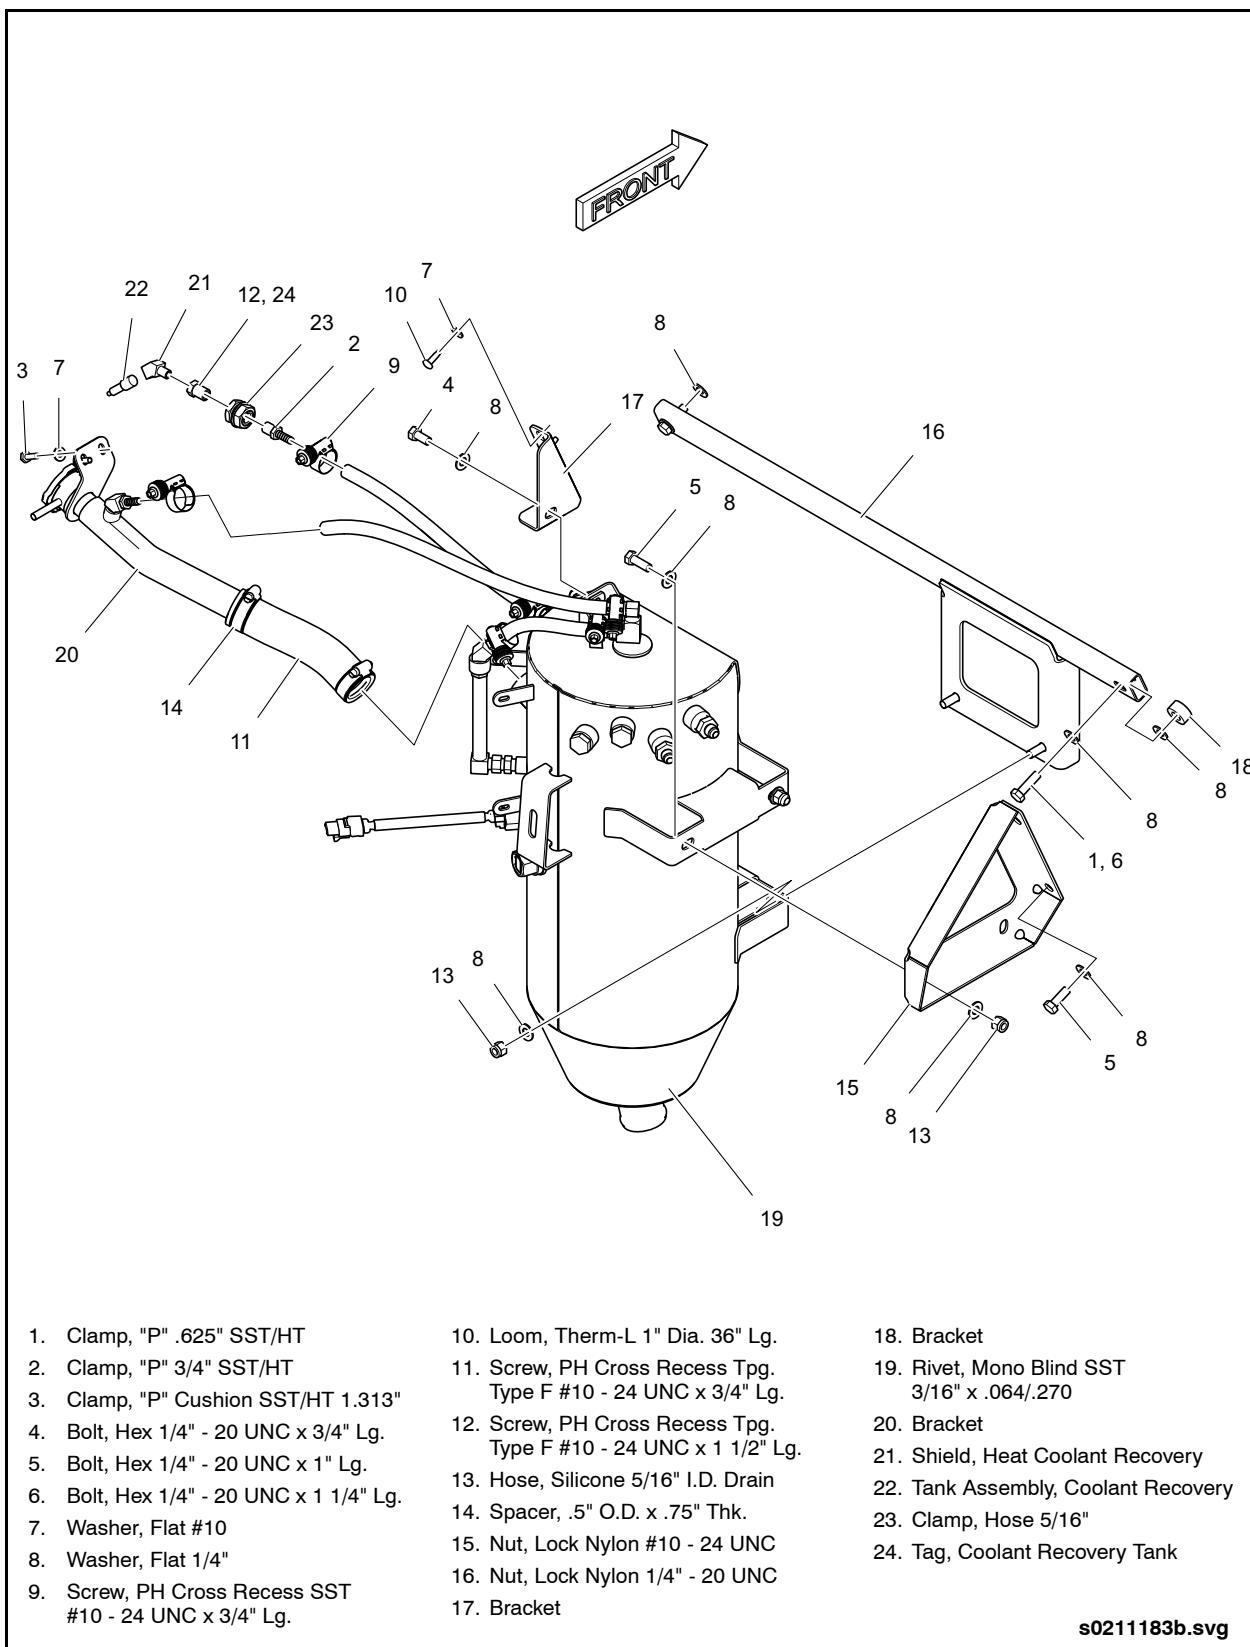

Fig. 6-5: Surge Tank Installation
1. Relieve system pressure using the manual pressure relief valve on the filler cap. Remove the filler cap. See "Fig. 6-5: Surge Tank Installation" on page 21.